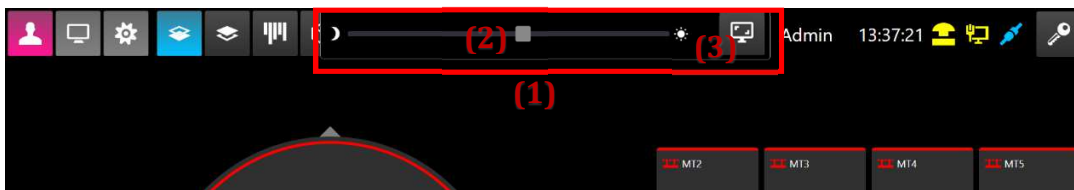

FIG. 68: SLIDING OPTIONAL FUNCTIONS BAR
After the the finger slide (Fig. 68 – (1)), the slide bar will appear. After some time of inactivity, the bar automatically slides back up. Available functions are described in the paragraphs below.
Slide bar allows the operator to make a screenshot of the active screen. Screenshot is done by clicking the button (3) - Fig. 68. Screenshot of the screen is usually saved on the backup drive to the “Screenshot” labelled folder. The name of the particular screenshot is composed from the word “image” and a time frame, when the screenshot was made.